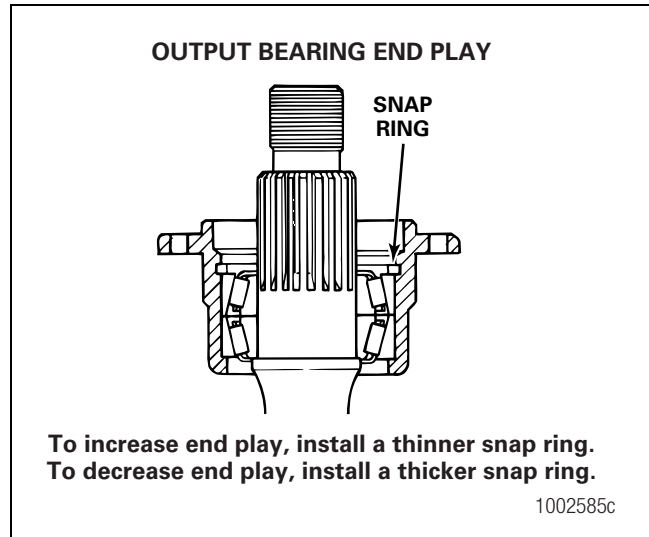

Figure 5.93
- If the end play reading is not 0.001-0.004-inch (0.025-0.102 mm): Remove and replace the snap ring that fastens the bearings in the cage. Install a thinner snap ring to increase the end play. Install a thicker snap ring to decrease the end play. Figure 5.93.